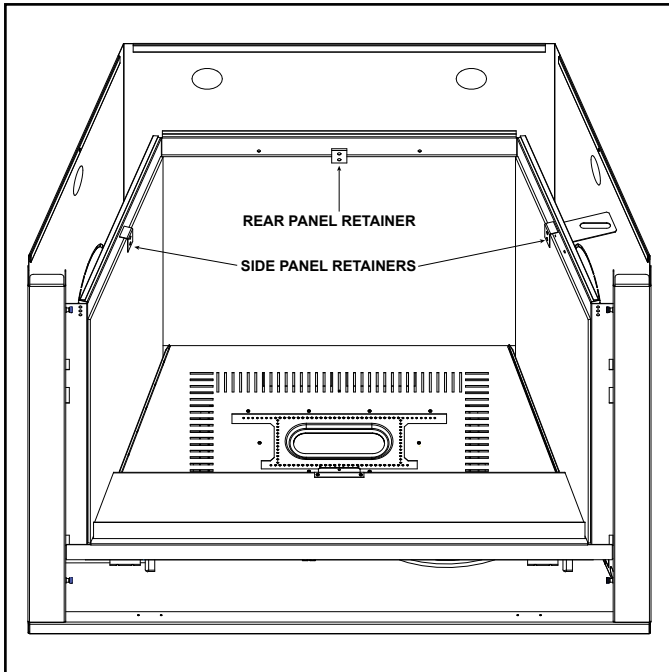
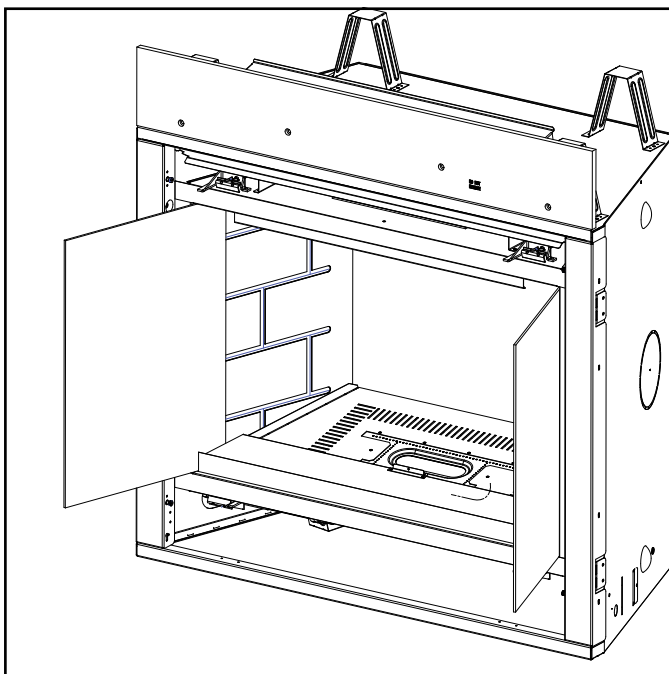

Figure 3.2 Remove Glass Panel Retainers
Figure 3.3 Glass Panel Removal
2. Remove the side glass panel retainers. See Figure 3.2. Slide the side glass panels out of the appliance as shown in Figure 3.3.
3. Remove the rear glass panel retainer, shown in Figure 3.2, and lift the rear glass panel out of the appliance.